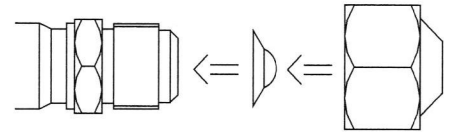

Fig.6
- For unused branch pipe, the pipe orifice should be sealed see fig.6.